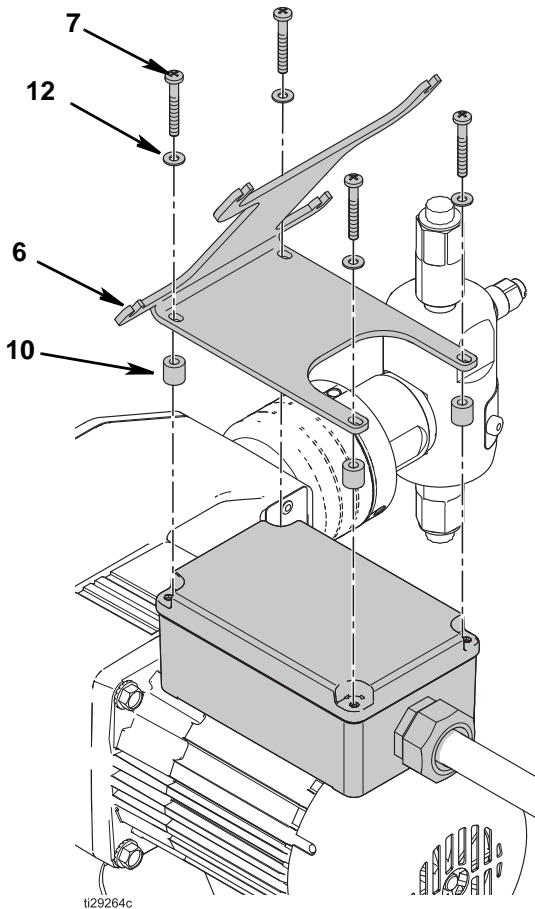

FIG. 8 Attach pump mounting bracket
2. Place the mounting bracket (6) on the motor junction box and secure with supplied screws (7), washers (12), and spacers (10). See FIG. 8.